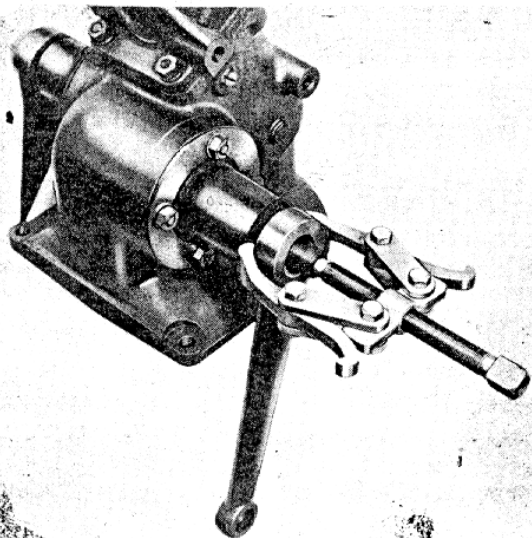

Fig. 2
- Step 2—Pull both steering arms off of the sector shafts as shown in Figure 2 and remove the felt washers.